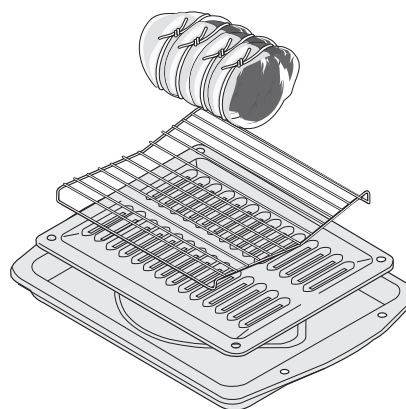

Figure 33: Meat, insert placement
4. Place meat (fat side up) on insert (Figure 33). Place prepared food on oven rack and slide into oven.
- Use the broiler pan and insert, as well as the roasting rack (Figure 33) (some models). The broiler pan will catch grease spills, and the insert will help prevent splatters. The roasting rack will hold the meat.